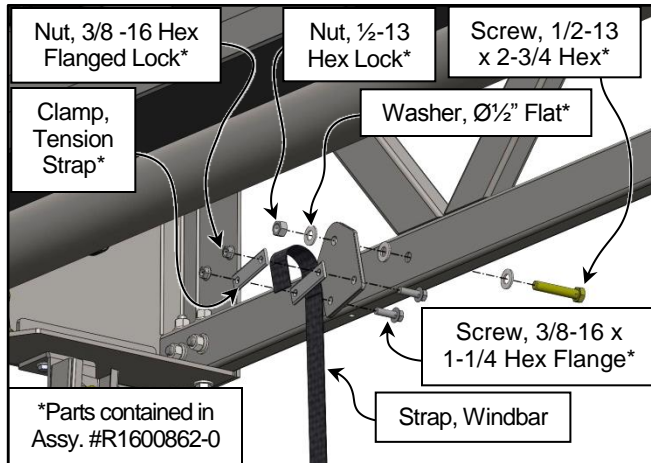

Figure 75
10. Loosen the front strap clamp bolts and loosen the straps up or down through the clamps as necessary. Move the Windbar up or down, as required, by raising or lowering the windbar on the forklift. Also make sure the Windbar is level. (See Figure 75)
(See Figure 75)